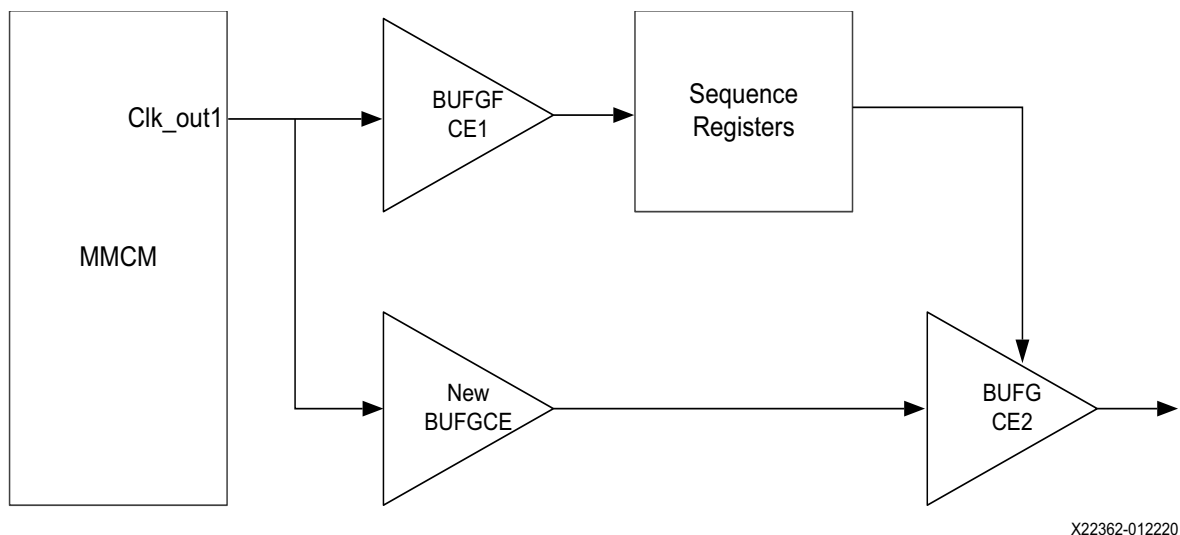

Figure C-1: Safe Clock Startup Failing Path
1. Add an additional BUFGE cascaded in the failing clock path along with the existing BUFGE in safe clock startup path. Figure C-1 shows the failing path for the clk_out1. Insert New BUFGE between MMCM and the BUFGE2 as shown below.